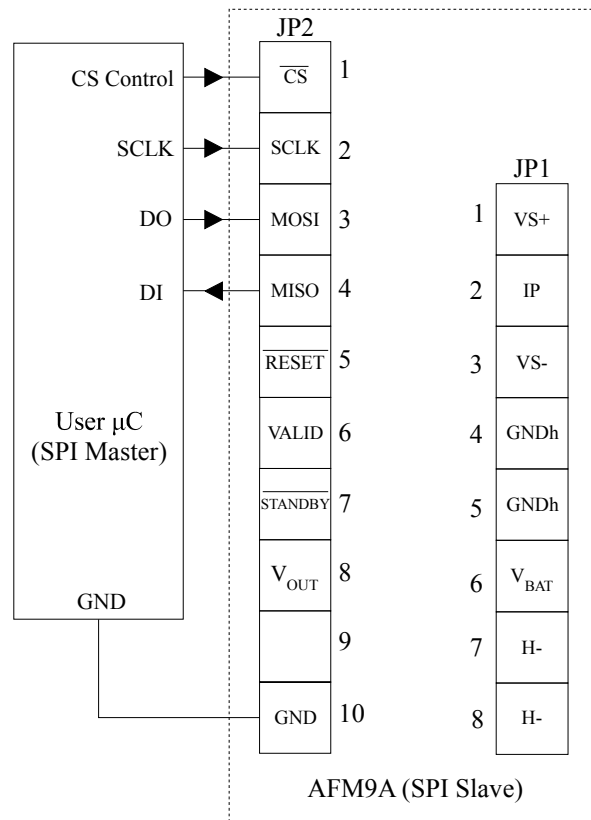

Figure 4. SPI Connections
The AFM9C is connected to a SPI master as shown in Figure 4. The AFM9C operates in SPI slave mode 0 with an alternative implementation of the Slave Select called Chip Select (CS). Table 3 lists how each connection should be configured on the user microcontroller. All signals connected to the AFM9C should adhere to the V_{OH} , V_{OL} , V_{IH} , and V_{IL} values in Section 11.